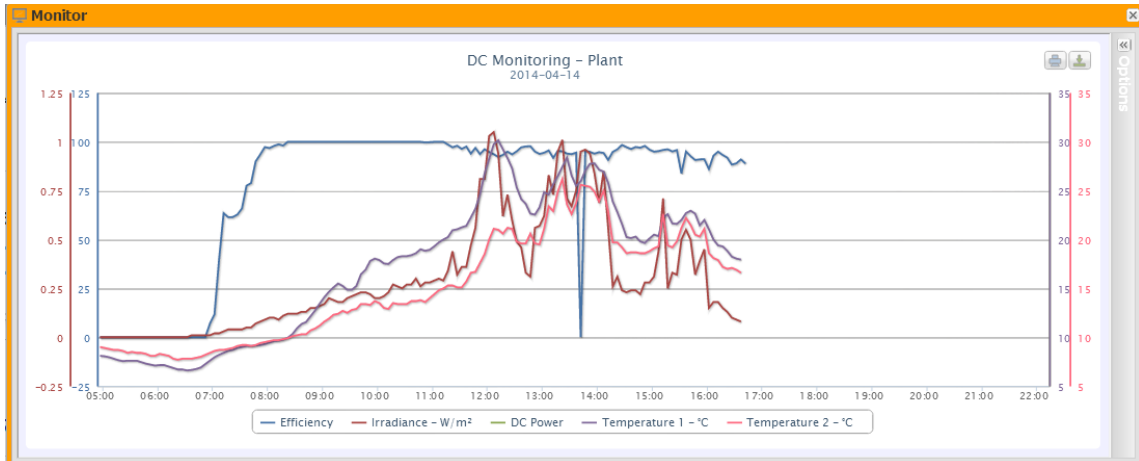

Figure 11: Monitor Window; DC Production Chart
- “*Total efficiency*”: This is the value shown in the “*DC power*” chart (Fig. 11).